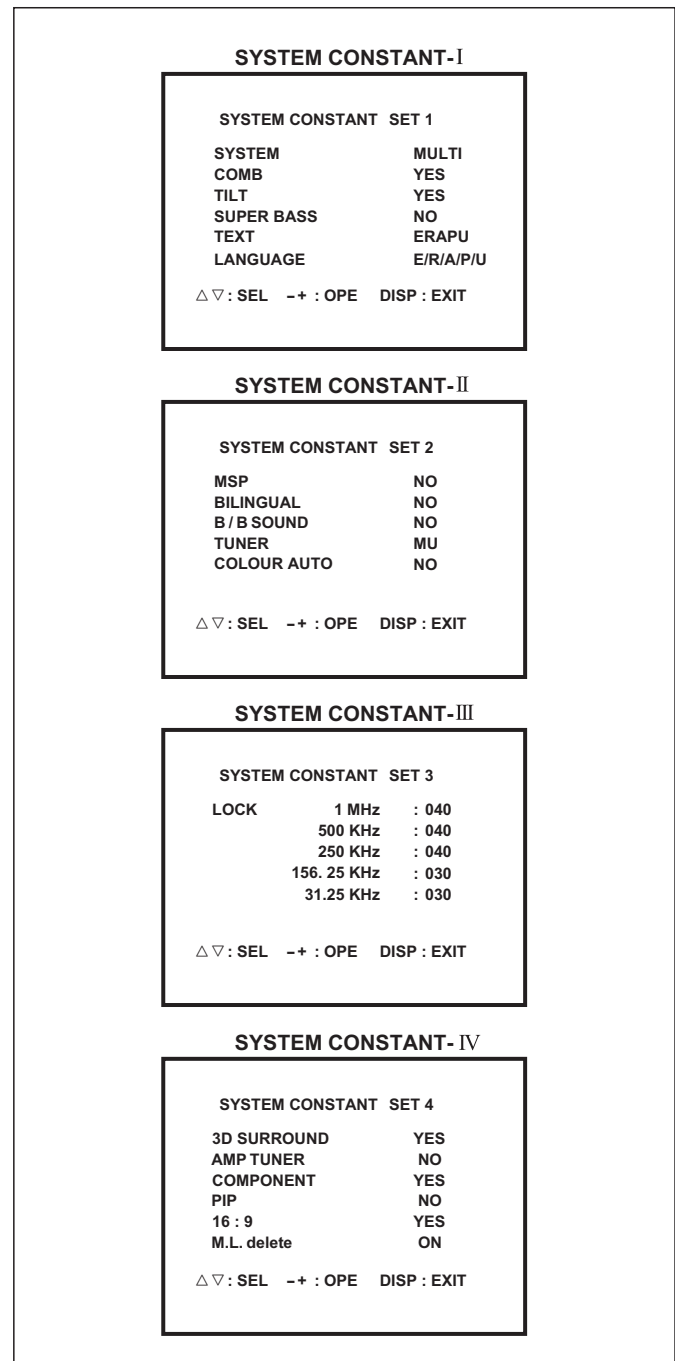

Fig. 2
- (1) While pushing down the 2 claws **[E]** as shown in Fig. 2 and pull out the CONTROL BASE in the direction of arrow **[F]** as shown in Fig. 2, the control base can be removed.
(2) In the SERVICE MENU, press the [DISPLAY] key and [PICTURE MODE] key simultaneously. Then, the SYSTEM CONSTANT SET screen will be displayed. (See Fig.2.)
(3) Check whether the setting values of the SYSTEM CONSTANT SET are the same as those indicated in Table1.